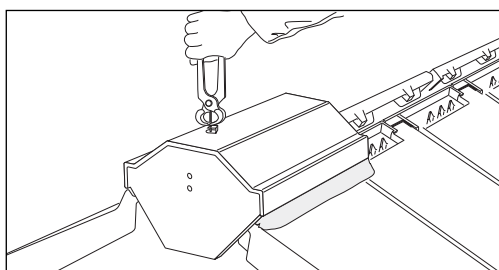

Fig 63 – Securing and trimming of wire
- 6 Feed the rubber washer and stainless steel clip onto the wire, and using pliers pull the wire tight through the self-locking slot in the top of the clip (Fig 63).